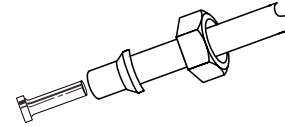

Figure 5
- Take the remaining tubing, slip the compression hex nut and 3/8" ferrule onto the tubing (position the tapered end of the ferrule away from the hex nut) and put in the tube insert (See Figure 5). Fasten this assembly tightly onto 3/8" cold water supply outlet (See Figure 6). Pull on tube to make sure a good connection has been made. Connect other end to the inlet side of the filter head assembly as indicated by arrow (see Figure 4B).